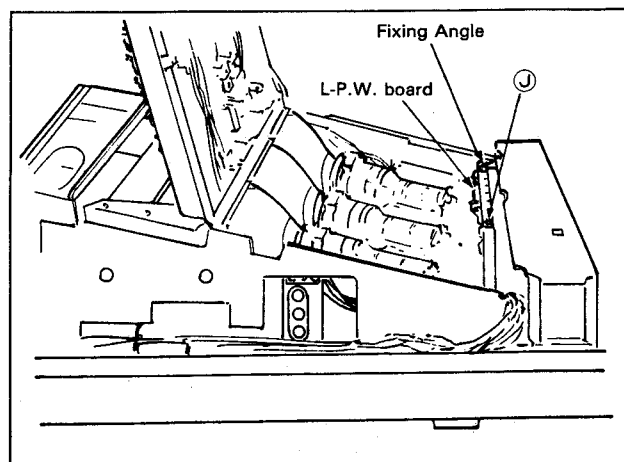

Fig. 8
- Remove a screw ⑩, and remove the fixing angle as shown in Fig. 8.